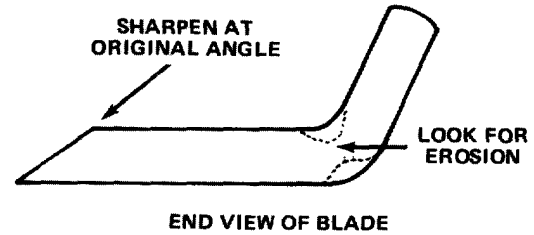

Figure 28
Check cutter blade every time rider is tipped on end. If lock nut holding blade is loose, tighten it to 45-60 ft-lb (61-81 N·m). If blade or sail (Fig. 28) at end of blade is worn, eroded, or cracked, replace the blade. Replace the blade if it is bent or out-of-balance. Always use genuine TORO replacement blades to assure safety and optimum performance. **NEVER USE WILL-FIT REPLACEMENT BLADES.**
7. Using a file, sharpen cutting edge at both ends of the blade (Fig. 28).